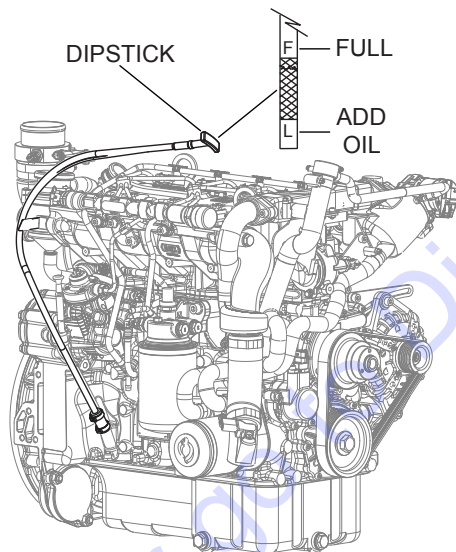

Figure 13. Engine Oil Check and Fill
2. Pull the engine oil dipstick from its holder (Figure 13).